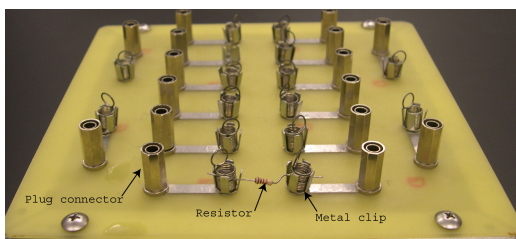

FIG. 7: The breadboard.
The breadboard is designed for quick construction of simple electronic circuits and is shown in Fig. 7. Electronic elements (e.g. resistors) are easily attached using the metal spring clips in the middle of the breadboard. Each metal clip is electrically connected to a plug connector by a metallic strip. The resistance between the metal clip and the plug connector is negligible; therefore, you can assume that these two points are at the same electrical potential (voltage) and the same point in a circuit. Circuits are constructed by connecting the electronic circuit elements and the power supply together using cables with banana plugs. The banana plugs fit securely into the plug connectors on the breadboard, the multimeter, and the power supply.
- Breadboard; see Fig. 7.